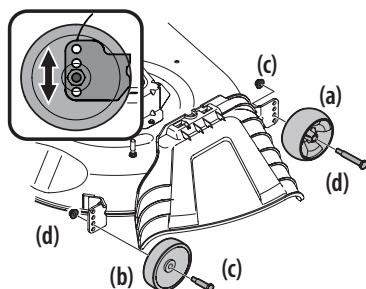

Figure 20
- b. Remove the front (a) and rear (b) deck wheels by removing the flange lock nuts (c) and shoulder bolts (d) that secure them to the deck. See Figure 20.